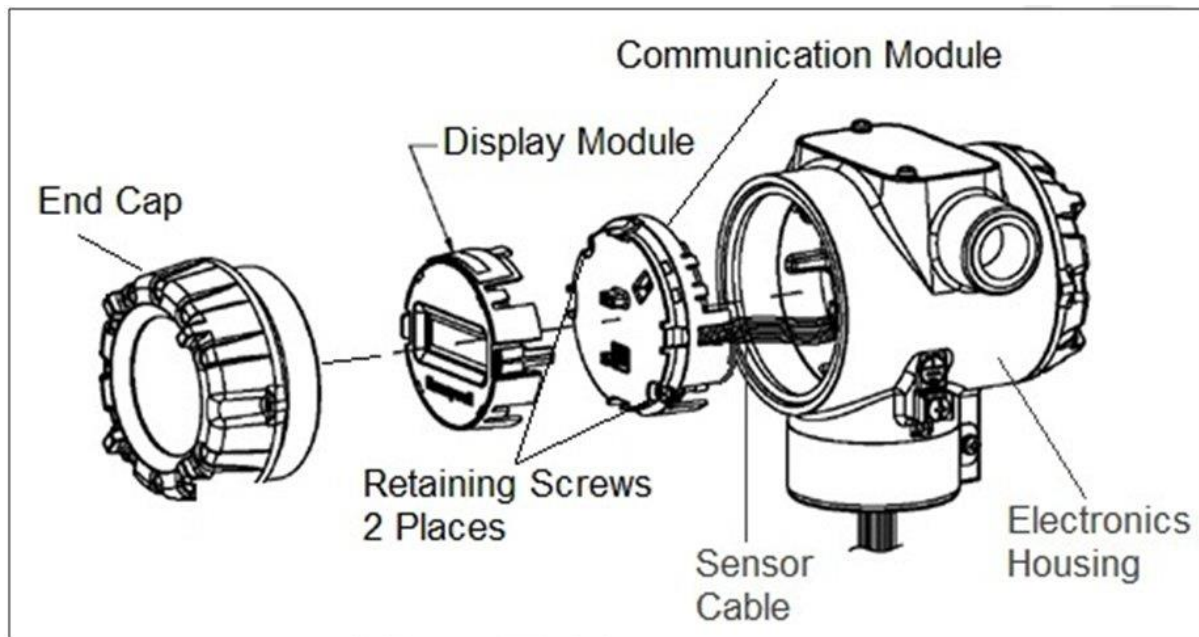

Figure 21 – PWA Replacement
Refer to Figure 21 for parts locations.
16. Install external upgrade label (i.e. DEVICE MODIFIED.....) provided on outside of housing as shown in Figure 21.